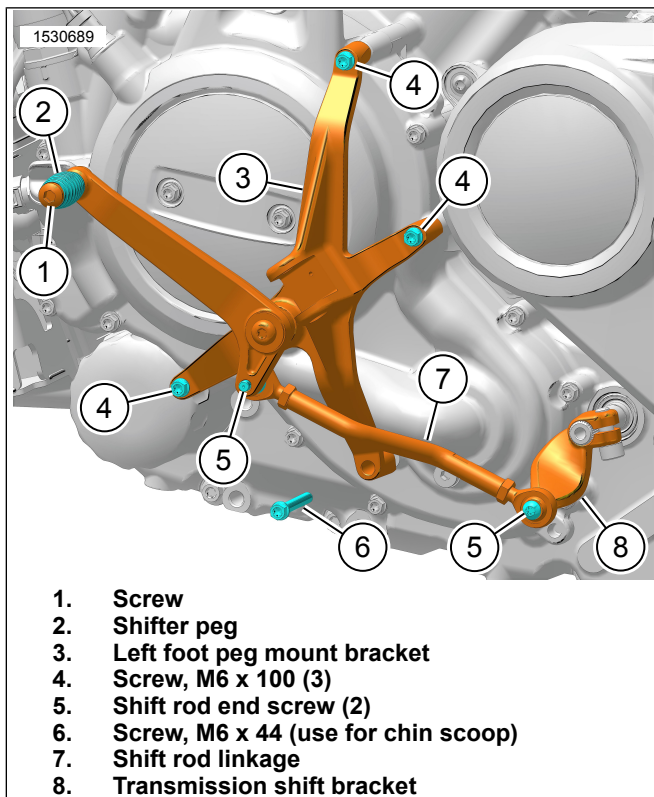

Figure 7. Left Foot Peg Mount Bracket
1. See Figure 7. Install left foot peg mount bracket (3).
- a. Position mount bracket (3) over coolant manifold where screws were previously removed.
2. Install screws (4). Tighten.
- a. See Figure 7. Use screw (6) to complete procedure.